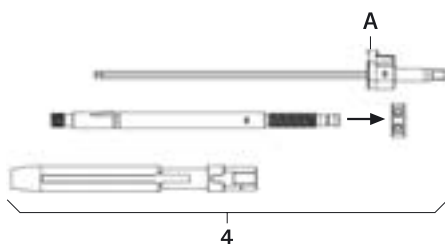

Fig. 1
- To dismount reduction lever **4**, see Fig. 1: